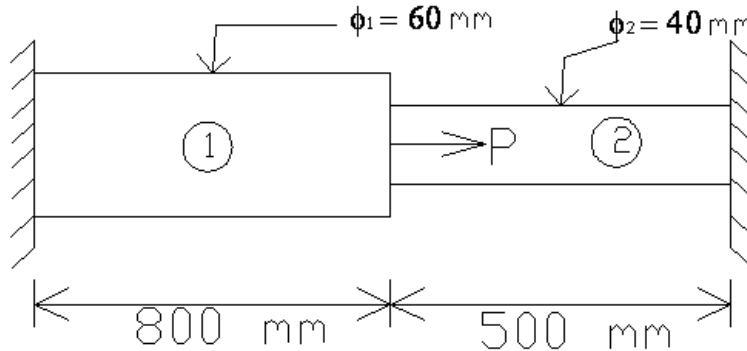

Fig. 2
- Reactions at the supports, For the member shown in the Fig 2.